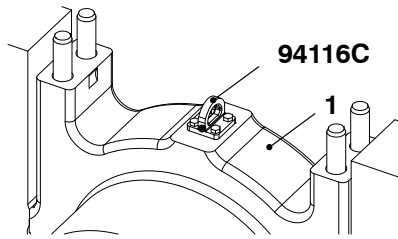

Fig. 4
- 11) Install the lug (94116C, Fig. 4) to the main bearing cover (1).